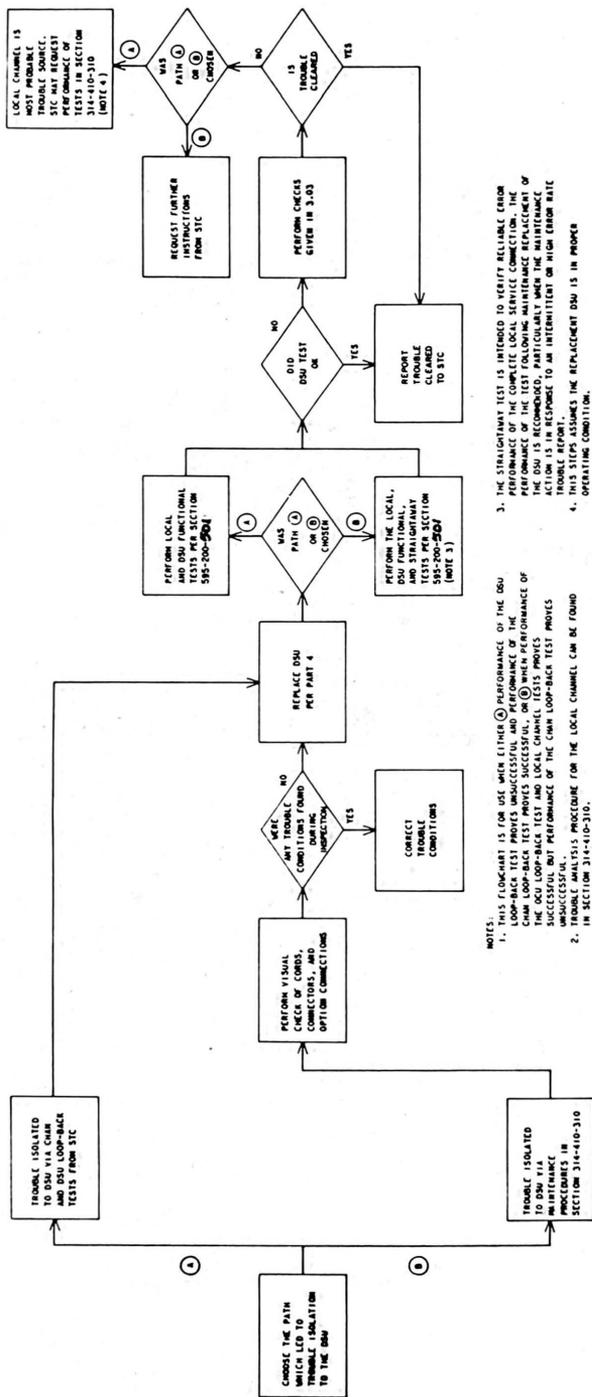

Fig. 1—Trouble-Clearing Procedure for 500B-Type DSU
**3.01** When investigating a trouble report, proceed as indicated in Fig. 1 and the following text. Upon arrival at the customer location, the TELCO employee should make a quick visual inspection of the DSU. Verify that the PWR light-emitting diode (LED) is illuminated and that the switch on the faceplate is in the center position. Check also for other possible causes of trouble, such as cable and connec-